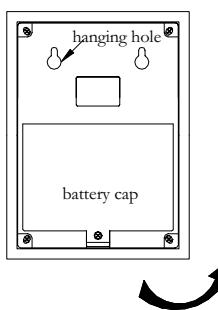
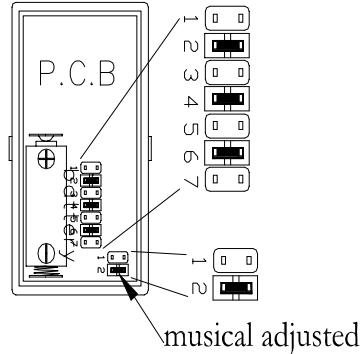
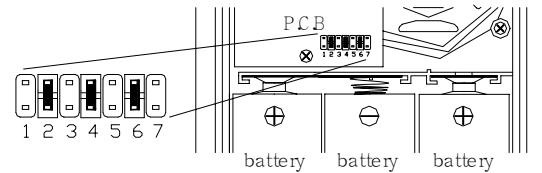

fig 7
fig 10
fig 11
Indoor and make 2 holes (with distance: 60mm, dia.: 6mm, depth: 25mm (as fig 7). Then put the “Plastic screw sock” into these holes & screw the tap screw (as fig 8)
- ② Installation for Receiver: Shoot the hanging hole (as fig 7) to the Tap Screw on wall then pull down the Receiver case slightly (as fig 9)
- (1) Transmitter-Battery installation/replacement: take off the Transmitter case (refer the installation of Transmitter). Put the battery in proper position (as fig 10)
- (2) Receiver-Battery installation/replacement: un-screw the battery cap (as fig 7), be sure install The battery in right position (as fig 11)
There are 7 selections code on both Transmitter & Receiver (ad fig 10 & fig 11) for choosing.
Adjusted selection code of Transmitter to “ON”, for example: fig 10 selection code “ON” – 246
Then the receiver selection code will be “ON” – 246 (fig 11) via jumped circuit automatically.
There are 2 bell-rings for choosing (ad fig 10). The 2-codes on down-right corner are for choosing.